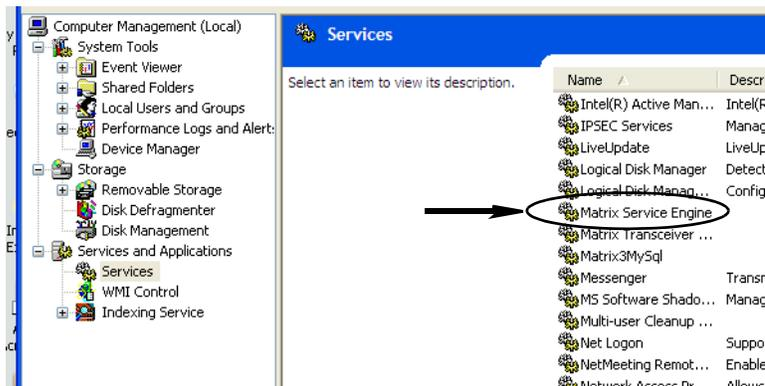

FIG. 37
- d. Double click Matrix System Engine on the Services list (FIG. 37).